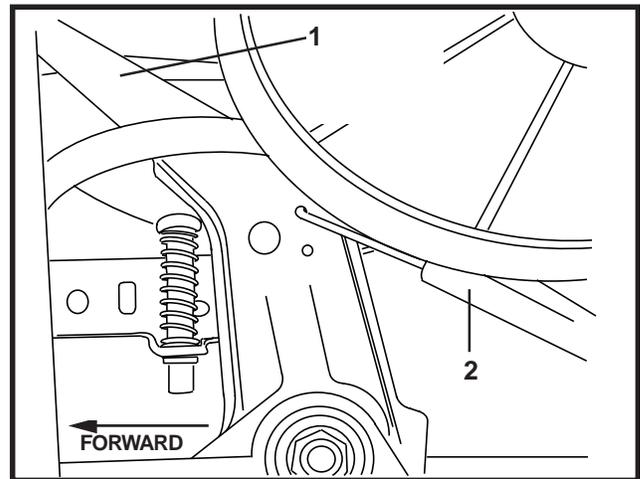

FIGURE 7
- Push throttle control lever on console forward to full extent. Pull throttle control lever on engine back as far as possible. See Figure 7.
14. Insert “L” end of throttle cable into the outside hole of the engine throttle control lever. Figure 7.